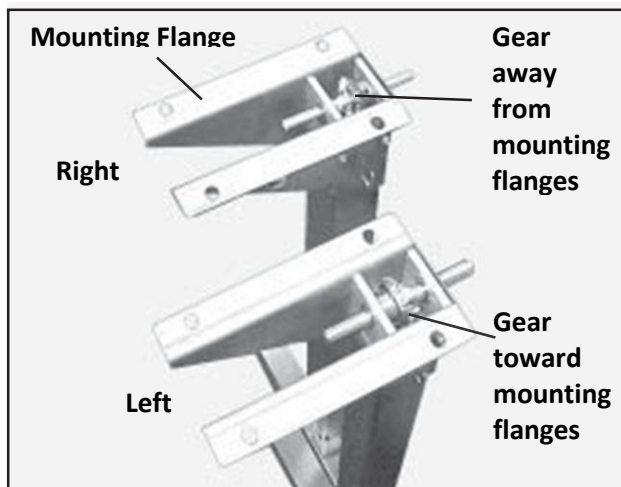

Figure 2-3
3. Refer to Figure 2-3 and select the **RIGHT** leg assembly.